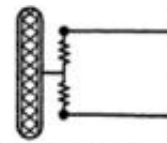

Fig. 6.34. Sliding type suspension system.
- In **sliding type suspension system** (Fig. 6.34). The stub axle can move up and down as well as rotate in the frame members. Track, wheel altitude and wheel base remains unchanged throughout the rise and fall of the wheel.